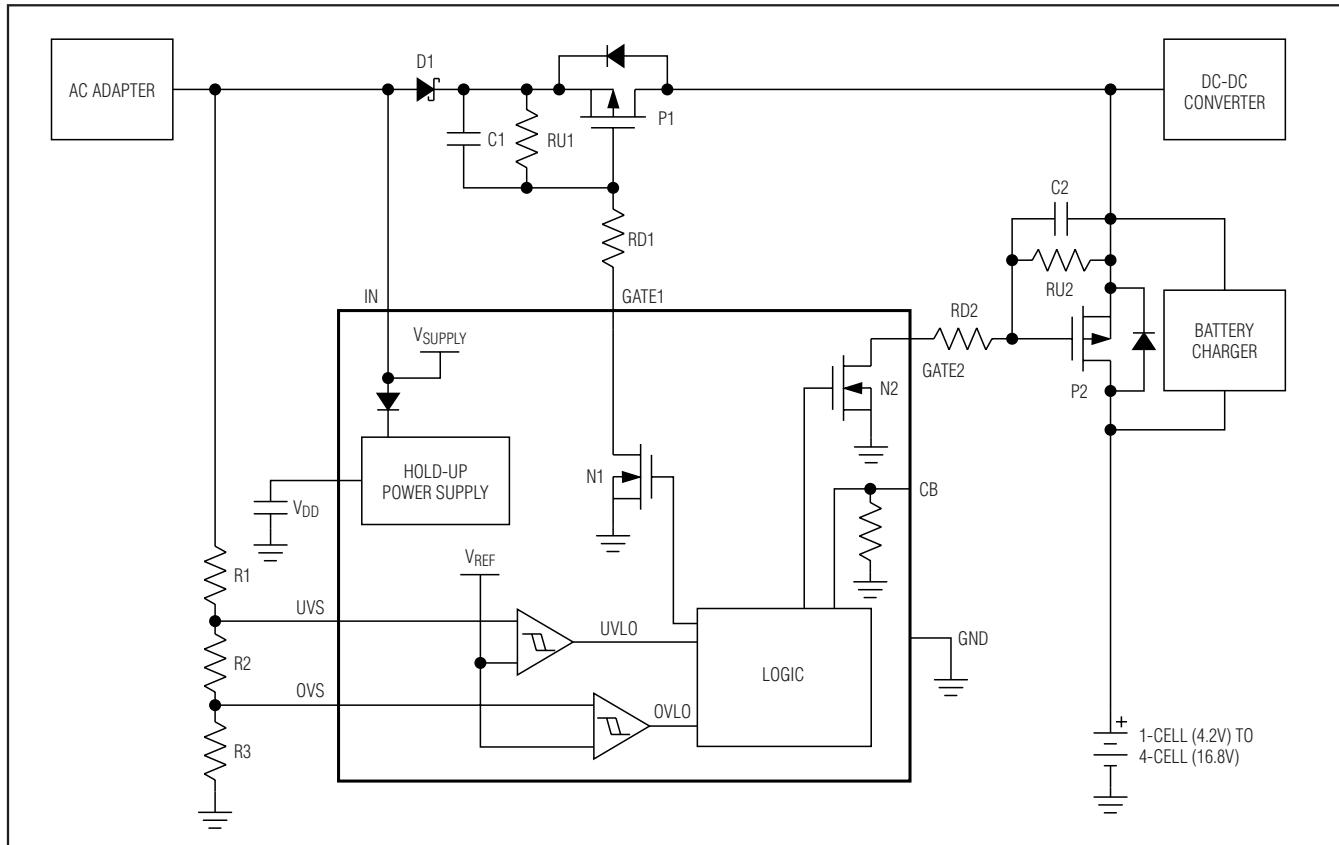

Figure 4. MAX4959 Typical Operating Circuit 1
The MAX4959/MAX4960 feature a control bit (CB) pin that controls an external battery-swtichover function that switches in the battery when the adapter is unconnected. The host system detects when the battery switchover must take place and pulls CB high to turn on P2. The load current is not interrupted during battery switchover as the body diode of P2 conducts until the CB line is driven high (see the *MAX4959 Typical Operating Circuit 1*, Figure 4).
The MAX4959/MAX4960 include undervoltage and overvoltage comparators for window detection (see Figure 4). GATE1 is enhanced and after the debounce time, the pFET is turned on when the monitored voltage is within the selected window.